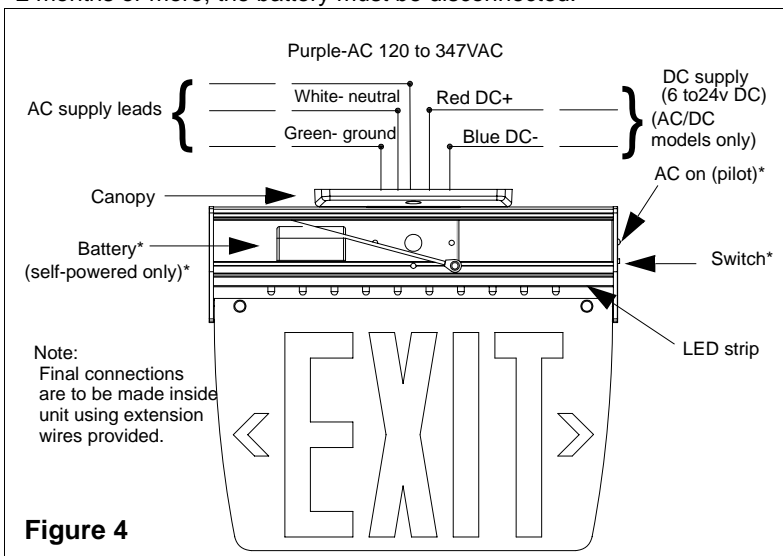

Figure 4
- a. Extend the AC supply leads with the extension wires supplied (follow the electrical wiring in figure 4).
- c. Feed the supplied wires through the center hole of the canopy then attach it to the spider plate using the screws provided (6).
- d. Remove the knock out towards the inside with a screwdriver. Feed the supplied wires through the center hole and mount the housing to the canopy with the screws provided (4).
4. Canopy screws - long(2)	10. Panel holder plugs
6. Canopy screws - short(2)	12. Cover
- c. Extend the AC supply leads with the extension wires supplied (follow the electrical wiring in Figure 4).
6. Make the proper connections, our system accepts an input voltage of 120 to 347 VAC (see figure. 4). Connect the purple and white leads to the building utility. Connect the green ground wire to the service ground or the ground connection in the junction box.